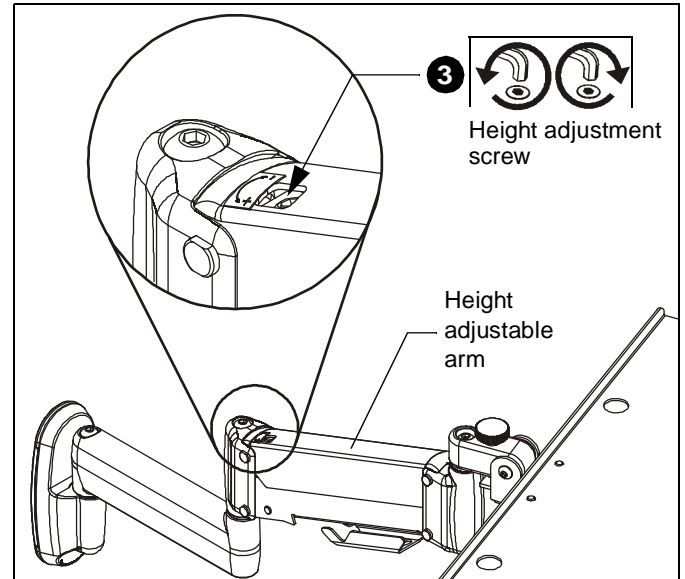

Figure 10
- Slightly loosen or tighten the height adjustment screw as necessary, using the 5/32" hex key (L). (See Figure 10)